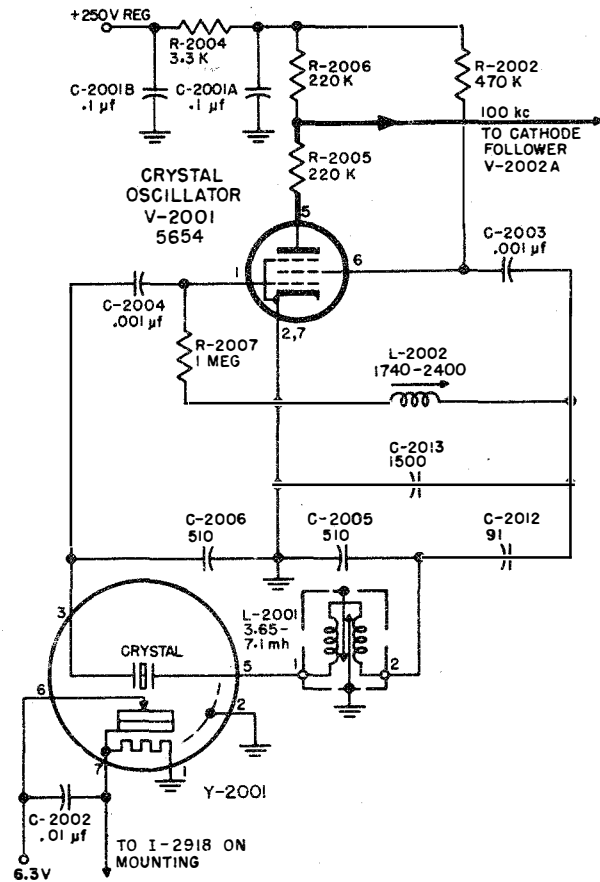

Figure 2-3. RFO Unit 1, Crystal Oscillator V-2001, Simplified Schematic
(1) CRYSTAL OSCILLATOR V-2001. — This stage (figure 2-3) is a modified electron-coupled Colpitts oscillator operating at a frequency of 100 kc with